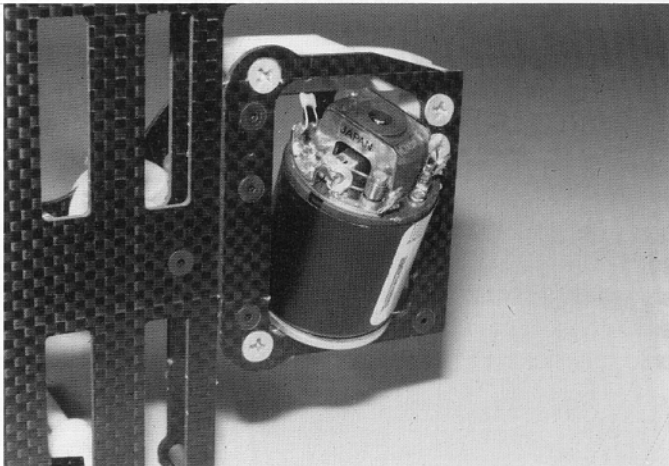

Fig. 54
□ **Figs. 54 & 55**—The motor is installed into the chassis through the bottom of the rear pod, as shown.